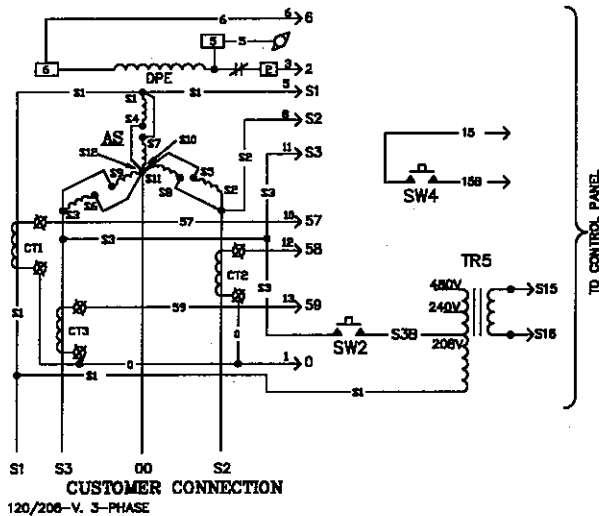

Figure 4 — "Low Wye" Connected Stator
**Low-Wye Connected:** With strapping board positioned over stud board the stator is "Low-Wye" connected for 120/208 volts, 3-phase output (Figure 4).
The maximum pressure at which gas is allowed to enter a building is established by code and may vary from one area to another. A primary regulator may be required to reduce gas pressure to the required safe level. The primary regulator may or may not be furnished by the gas supplier. The gas company usually supplies piping from the main distribution line to the generator site. The supplier is responsible to be sure that sufficient gas pressure is available for primary regulator operation (see Figure 4).